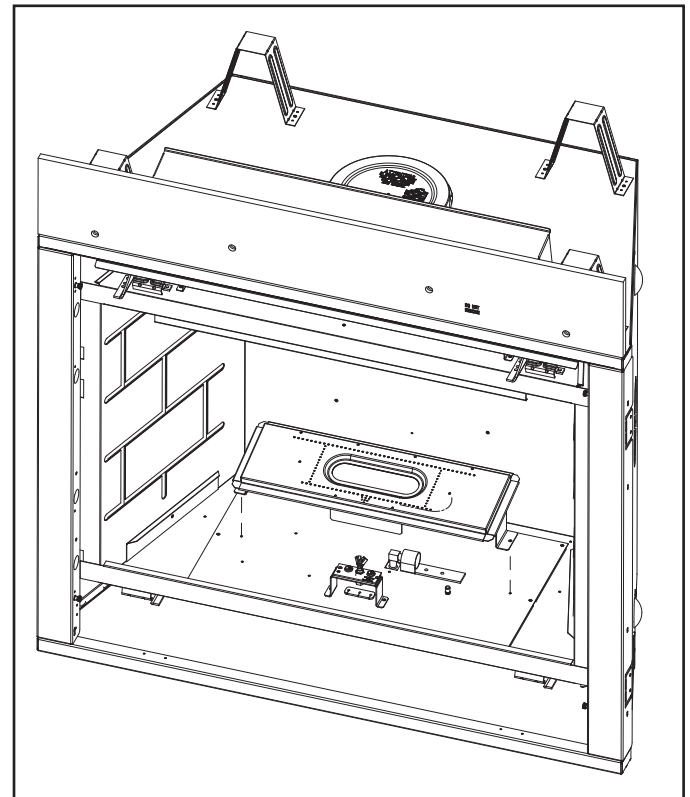

Figure 4.6 Burner Assembly Removal
5. Remove the burner assembly by removing the two screws as shown in Figure 4.6. To disengage the burner from the orifice, slide the burner to the right and lift it out.